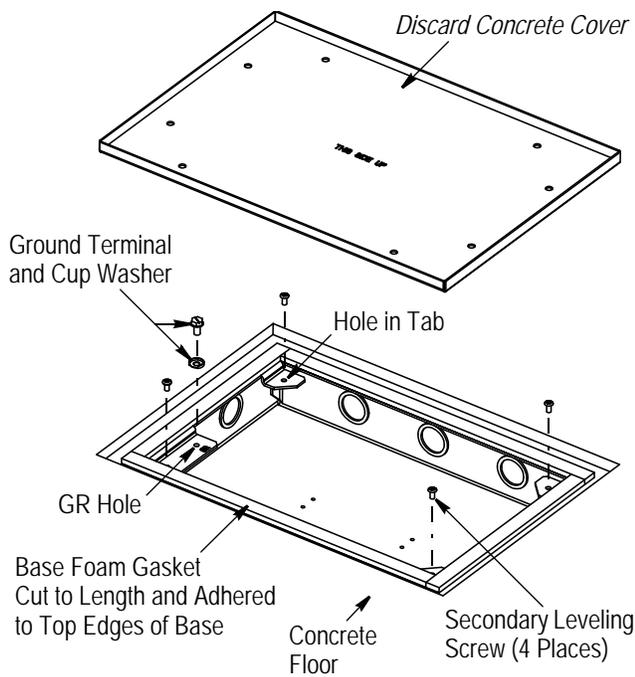

Figure 5
2. Cut the remaining foam gasket to length as required to cover the top edges of the base completely. Remove the adhesive backing from the base foam gasket, and adhere the foam gasket to the top edges of the base. See Figure 5. **DO NOT** discard the remaining foam gasket at this time.
3. Install, but do not tighten, the four secondary leveling (10-32x-½-in. pan head) screws in the holes in tabs of the base. Install the ground terminal and cup washer in the (GR) hole of the base. See Figure 5.